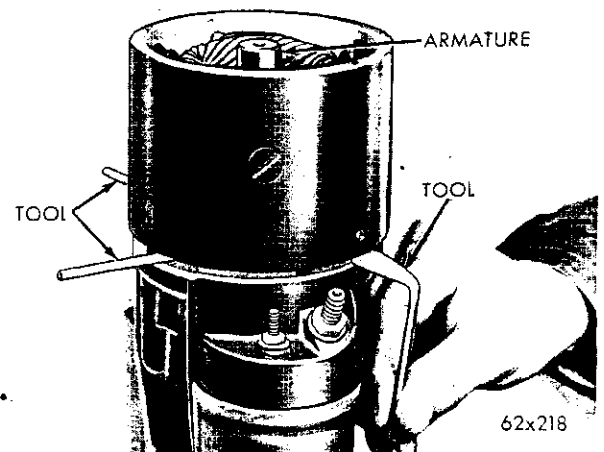

Fig. 42—Removing the Brush Positioning Tools
(20) Remove the brush positioning Tools C-3855 (Fig. 42).
(21) Install the thrust washer (fibre) and washer (steel) on the armature shaft.
(22) Position the starter end head assembly and install the starter frame screws and lockwashers. Tighten the screws securely.
(23) Install the gear housing dust cover. Make sure the dimples on the cover are securely engaged in the holes provided in the gear housing.